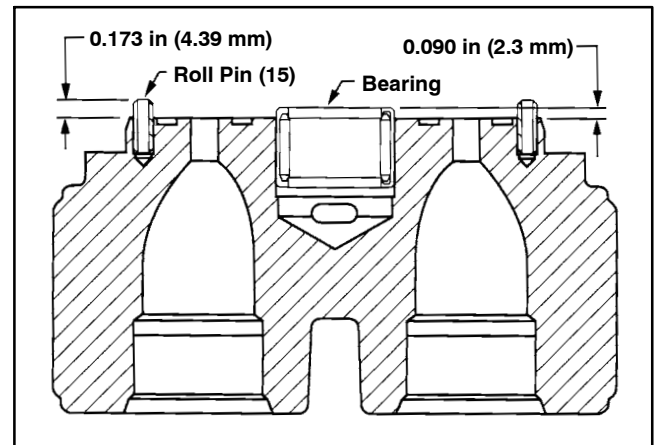

Figure 61
2. If necessary, install new needle bearing (17) in housing (3) with numbered end of the bearing outward.
3. Install retaining ring (9) on shaft. Install thrust race (10), thrust bearing (13) and second thrust race (10). Secure with second retaining ring (9).
4. Install shaft in housing. Install washer (18), new shaft seal (8) and retaining ring (6).
5. Install camplate insert (5) with the lettering side of insert to the front of the housing. Use petroleum jelly to hold in place during assembly.
6. Install rotating assembly (4) into housing. Make sure that piston shoes make contact with the camplate insert.
8. If roll pins were removed, install to dimension shown in Figure 61 and with opening of roll pin oriented away from bearing within 5 degrees of bearing center line.
9. To replace bearing (16) in backplate (2). Press bearing down to the dimension shown (Fig. 61) protruding from backplate with numbered end of bearing facing up next to valve plate.